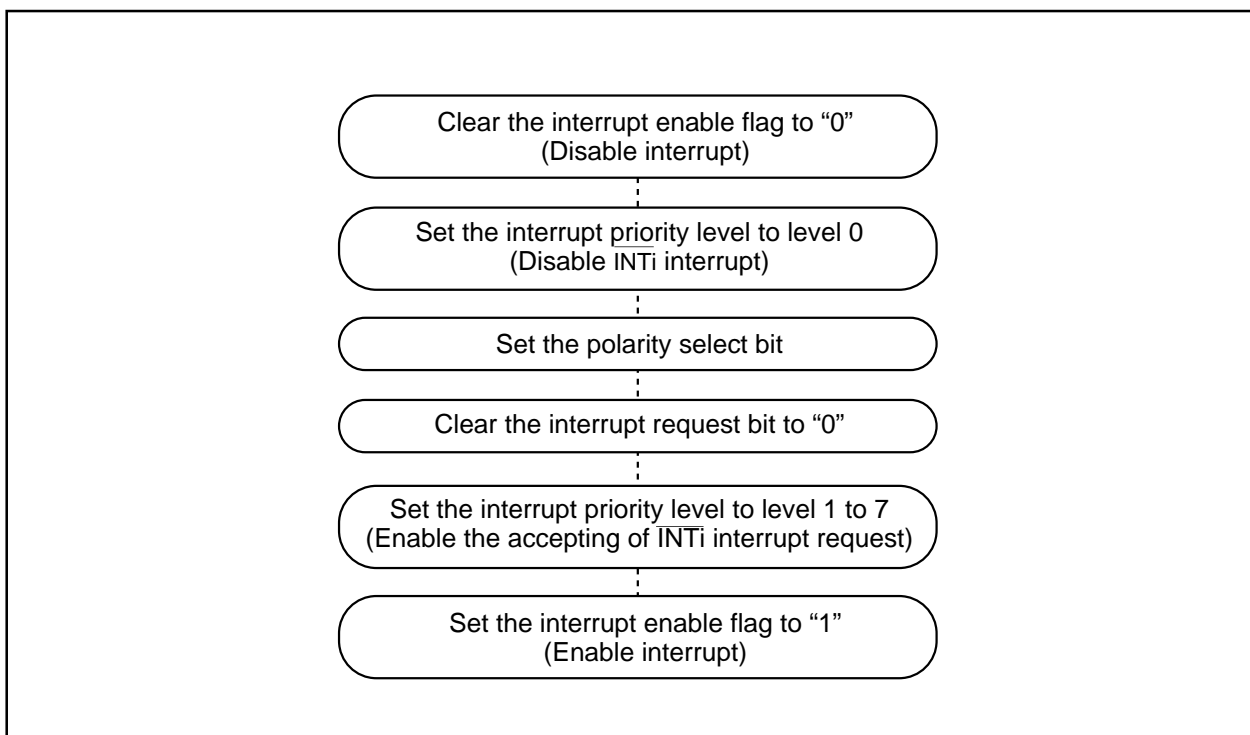

Figure 4.7.1. Switching condition of  $\overline{\text{INT}}$  interrupt request
- When the polarity of the  $\overline{\text{INT}}_0$  and  $\overline{\text{INT}}_1$  pins is changed, the interrupt request bit is sometimes set to "1". After changing the polarity, set the interrupt request bit to "0". Figure 4.7.1 shows the procedure for changing the  $\overline{\text{INT}}$  interrupt generate factor.